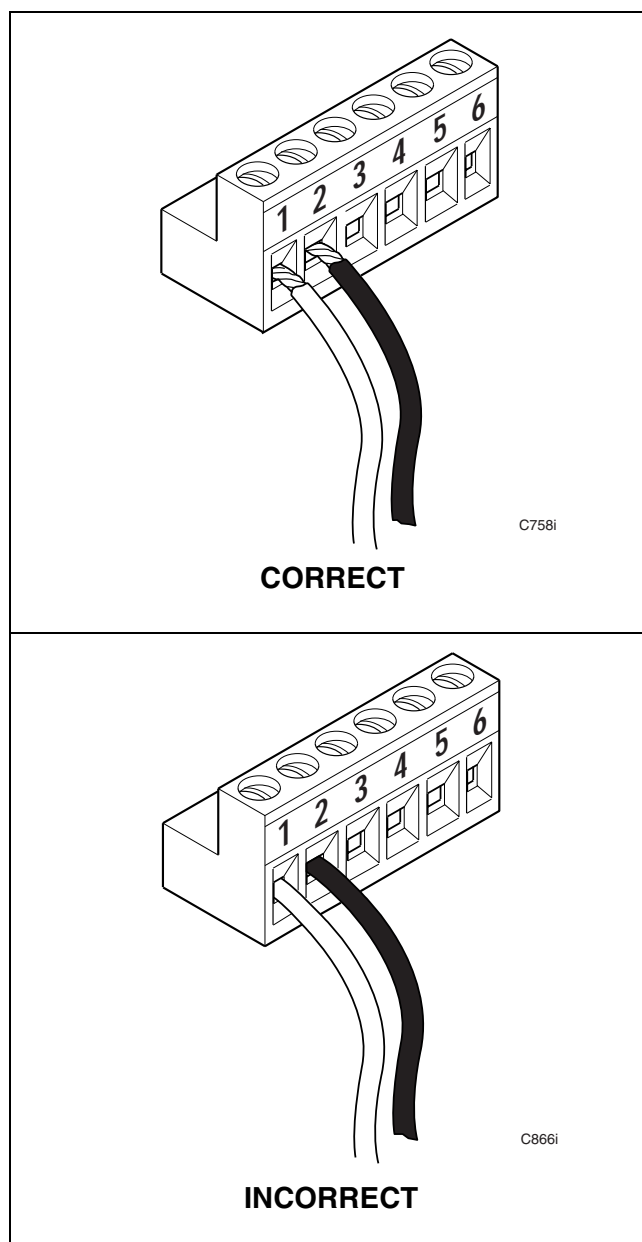

Figure 6
3. The black/red twisted pair (Alliance Laundry Systems recommends using American Electronic Wire Co. part number 781816PFO - 2Z) wires should be connected to slots 1 and 2 (red from 1, black from 2). Refer to *Figure 6*.
- Insert the wire into the connector. The red incoming wire goes into slot 1 and the black incoming wire goes into slot 2. Check that only wire, not insulation is inside the connector. Incorrect installation could result in the network not communicating. Secure the wires in place by tightening the screws on top of the connector. refer to *Figure 6*